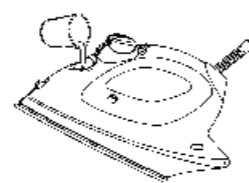

fig.4
3. Using a cup, slowly pour tap water or distilled water into the water tank as shown in Fig.4 . Never to fill beyond the Max filling line.